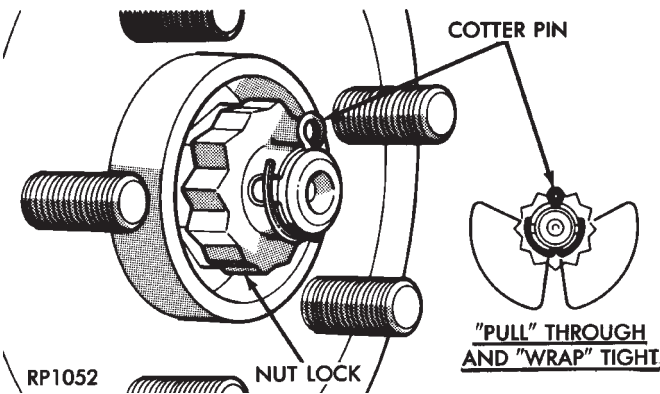

Fig. 17 Install Spring Washer, Nut Lock, and New Cotter Pin
(3) Install nut lock, spring washer and **NEW** cotter pin. Wrap cotter pin prongs tightly around nut lock (Fig. 17).